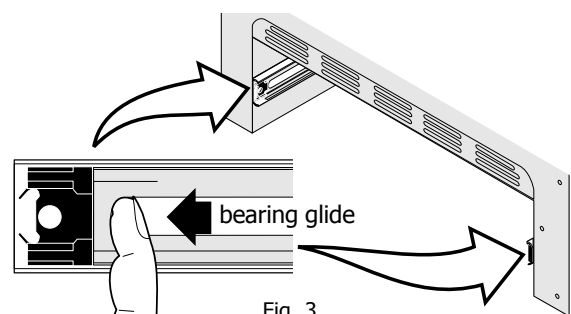

Fig. 3
1. Pull the bearing glides to the front of the outer compartment glide channels until they snap into place (refer to Fig. 3).